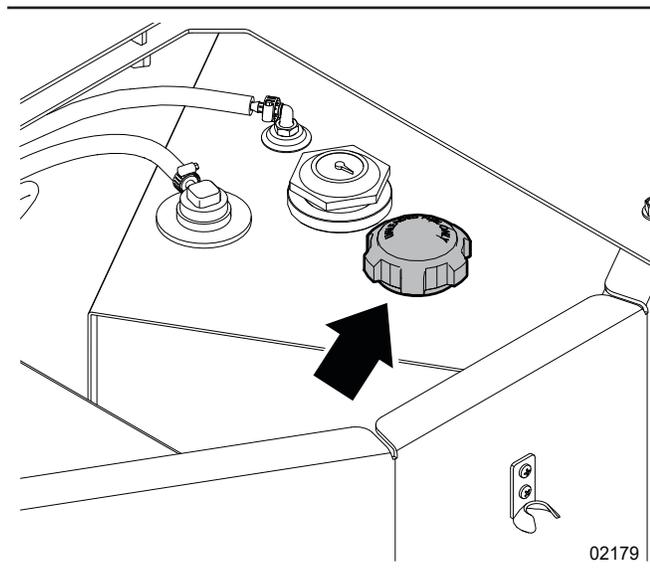

Figure 15—Fuel filler cap (BXT4224)
3. Clean the area around the fuel filler cap. See *Figure 15*.